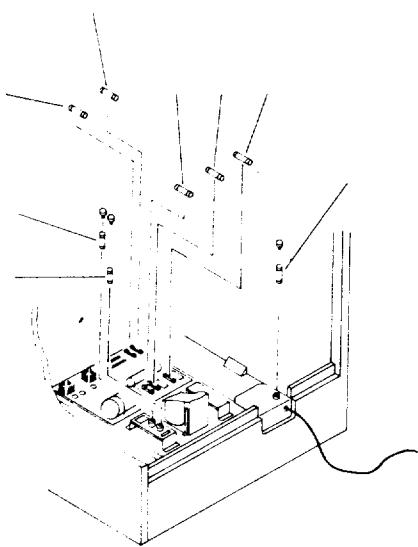

FIGURE 2-2 FUSE REPLACEMENT
This game contains 8 fuses. Seven of these fuses can be found on the Power Supply Assembly, five (5) are on the PCB and two (2) are on the Power Supply Bracket. One (1) is located at the bracket where the AC line cord comes into the cabinet. See Figure 2-2 for locations of these fuses.